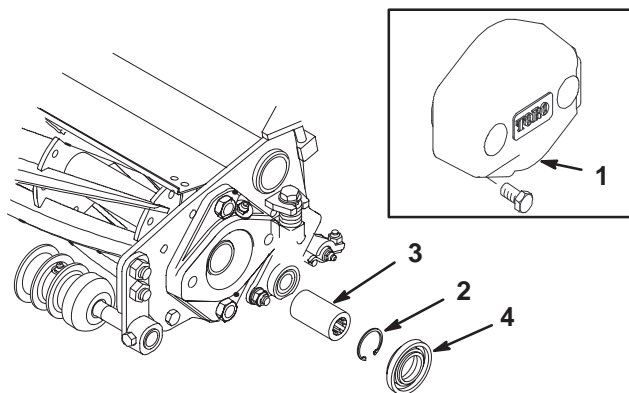

Figure 9
- A. Remove the 2 capscrews securing the counter weight to the left end of the cutting unit. Remove the counter weight (Fig. 9, inset).
- B. Remove the plastic spacer at both ends of the cutting unit (Fig. 9).
- D. Apply grease to the inside diameter of the drive coupler. Install the drive coupler to the left end of the cutting unit with a snap ring (Fig. 9).